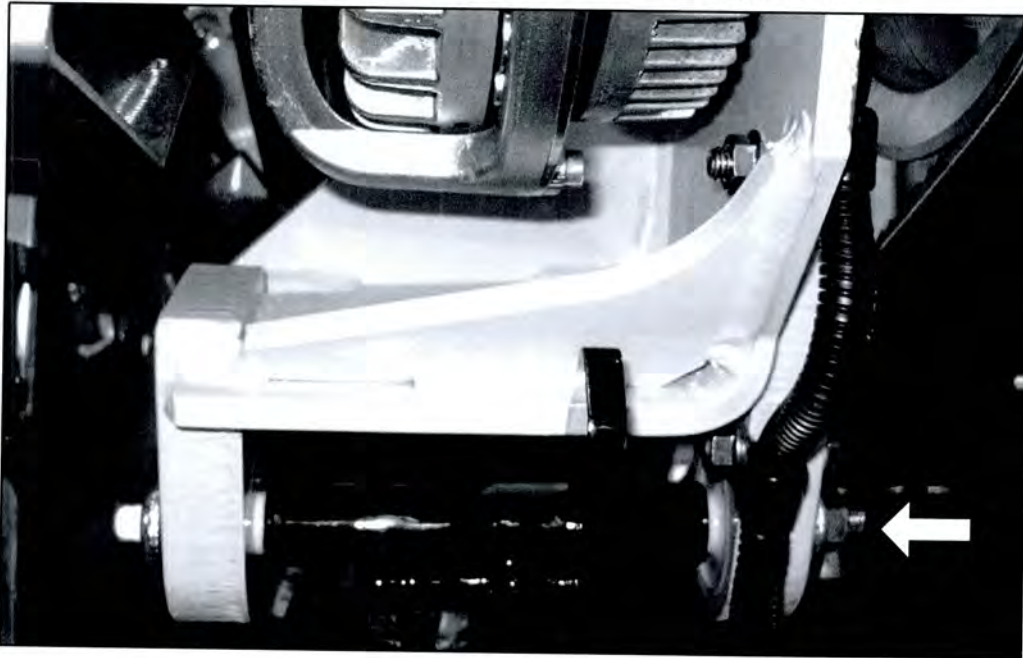

Figure 4.
8. Locate the fan clutch bracket mounting bolt, at the base of the assembly (refer to Figure 4).